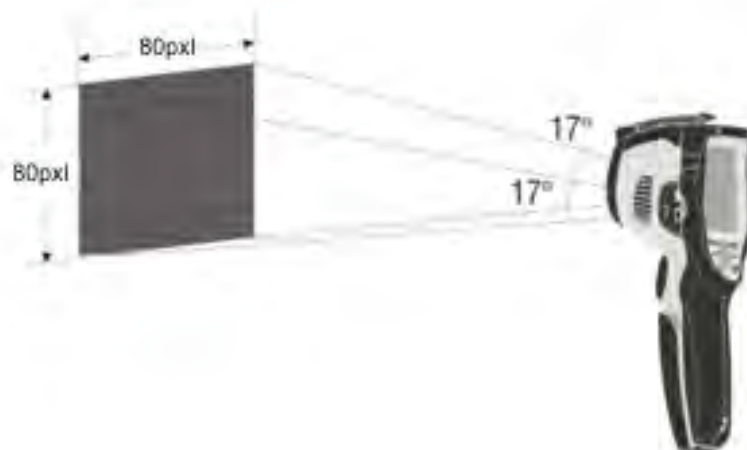

Fig. 35: Representation of the instruments field of view (FOV) for THT45, THT45W
4. For accurate temperature measurements, make sure the surface of the measured object is always bigger than the surface measurable by the instrument, which is given by the instruments field of view (FOV). The instrument THT45W has a field of view of $17^\circ \times 17^\circ$ and a detection vector of 80x80 (6400) pxl (see Fig. 35) (THT45, THT45W) or 160x120 (19200) pxl (THT48)